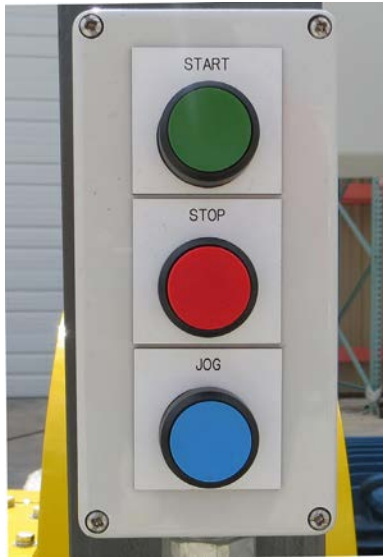

Fig. 26: Remote Control Station
3. With the manifold free of debris, start the pump by pressing the Start button (Fig. 26) on the remote control panel or the Start button on the main control panel.